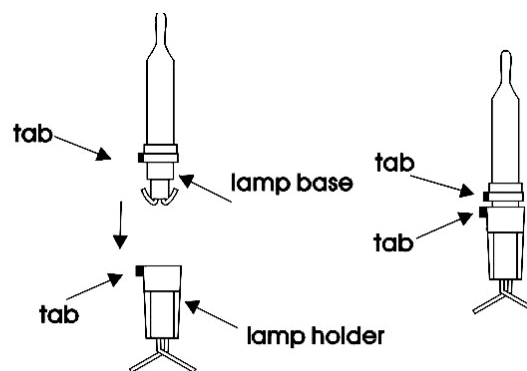

Fig.2 Replace with spare lamp
- c) Insert the spare LED lamp into the lampholder in correct direction by matching the tab on the lamp base of the replacement bulb with the tab on the lamp holder as shown in Fig.2. **IMPORTANT** – The tabs on the spare lamp and lampholder must line up.
- c) Do not deliberately change the direction of the LED lamp in the lampholder (always match the tab on the lamp base to the tab on the lamp holder, see Fig. 2).